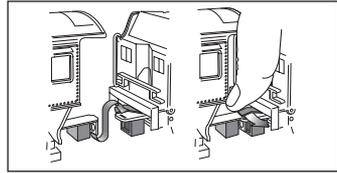

Figure 1. Drawbar connection
2. **Place your locomotive on Lionel or Lionel-compatible 0-54 or larger track and connect the drawbar between the locomotive and tender as illustrated in Figure 1.**